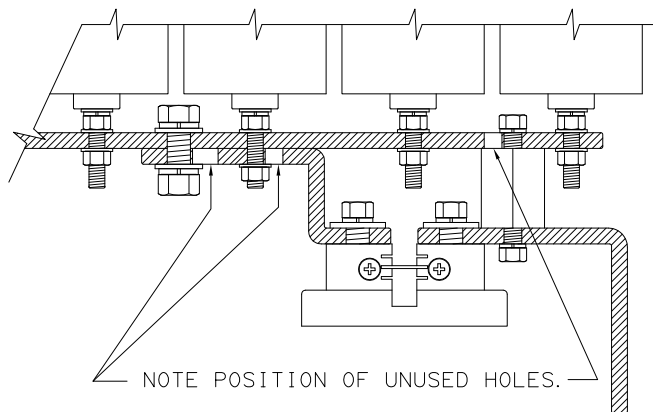

FIGURE B2
56. AMMETER SHUNTS ARE NORMALLY 200 AMPS 50mV; HOWEVER, CURRENT RATINGS UP TO 600 AMPS MAY BE SPECIFIED. SEE FIGURE B2, SECTION B-B FOR SHUNT AND BUSWORK DETAILS.